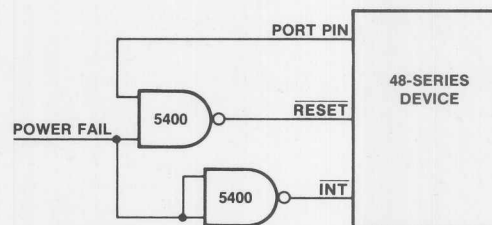

FIGURE 5-5. Driving and Holding  $\overline{\text{RESET}}$  Active
Figure 5-5 illustrates how the  $\overline{\text{RESET}}$  input may be driven low. When power is initially applied to the system, the Power Fail input to the NAND gate is a logic low (0) and the port pin input to the NAND gate is a logic high (1). The user program sets the port pin input to the gate to a logic low level. In the event of a power failure, the power fail input to both NAND gates becomes a logic high (1) and the  $\overline{\text{INT}}$  input to the 48-Series device goes active low (0). The  $\overline{\text{INT}}$  input to the device signifies a power failure and the CPU performs a power-fail routine. The power-fail routine saves the machine status and forces the port pin input to the NAND gate to a logic high. With both the power-fail and the port pin inputs at a logic 1 level, the